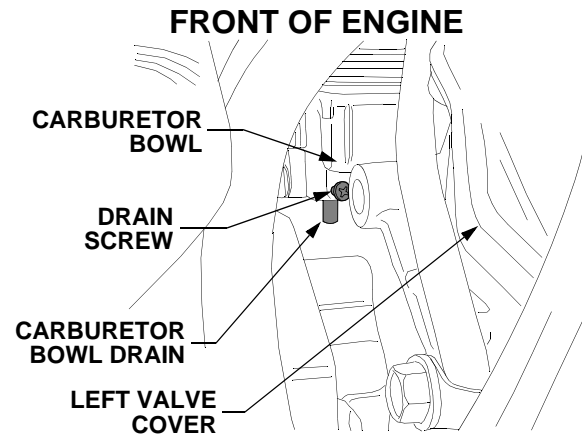

Figure 49
- Place a small container or rag beneath the carburetor bowl drain and loosen the drain screw to completely drain the fuel from the carburetor. See Figure 49.